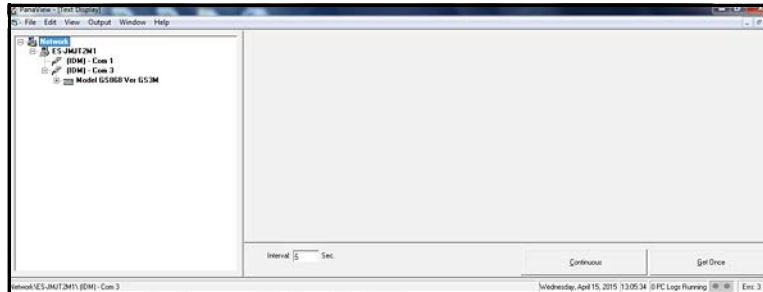

Figure 52: The Text Display Window
3. Open the “Output” menu and click on the “Text Display” option (this menu is discussed in detail in *Chapter 6. “Data Handling”*) to open a window similar to *Figure 52 on page 40*. By default, this window is stacked on top of the previously visible “Meter Browser” window.
3. Using the “Window” menu, as described in “Multiple PanaView Windows” on page 36, arrange the open windows in the desired format. For this discussion, Figure 52 below shows the “Text Display” window in its maximized (full-screen) size.
Note: Figure 52 above has been compressed both vertically and horizontally for improved clarity.
5. Before actual data values can be displayed in the text pane, activate one of the following data collection modes (see Figure 52 on page 40):